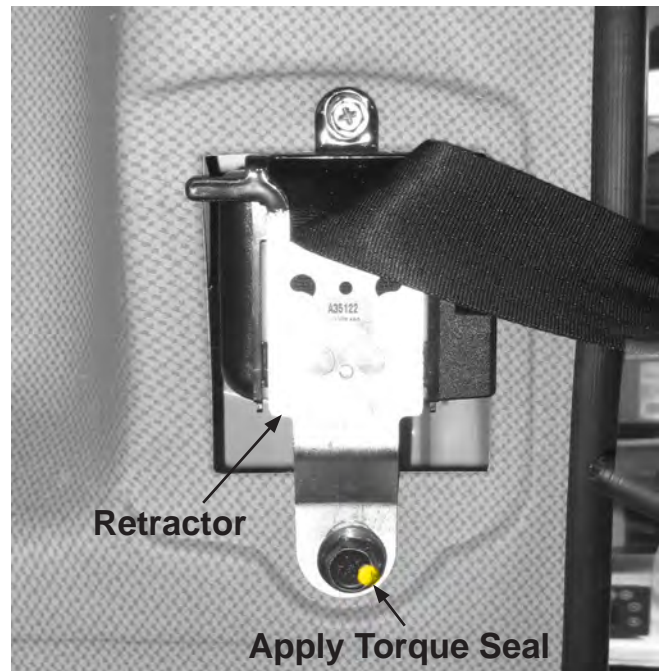

Figure 13-10
- 13. Using new bolt (S5000015-001), reinstall the retractor and tighten to 42 ft-lb (57 N•m) of torque (see Figure 13-10).
- 14. Apply torque seal to the bolts (see Figure 13-10).